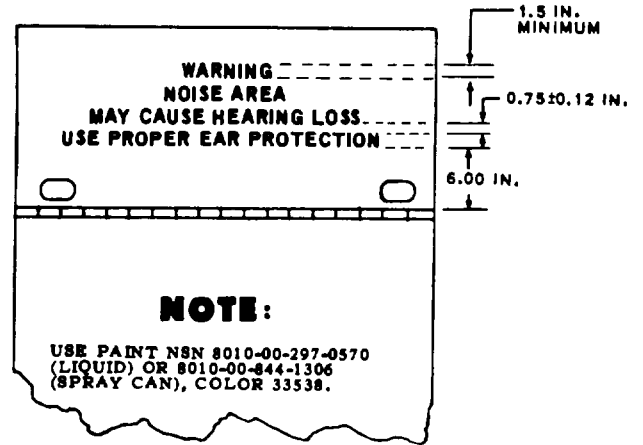

Figure 9A-1. Noise Level Warning Sign
a. The noise level warning sign shall be stenciled on the top half of both rear (generator end of set) side doors, in accordance with Figure 9A-1.